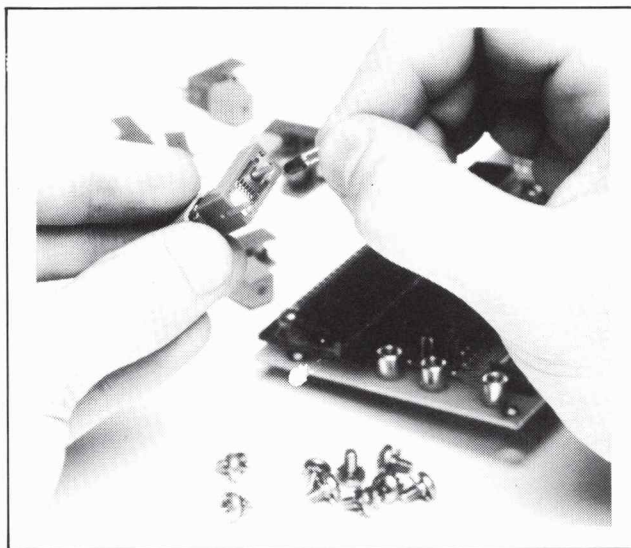

Figure 5-19. LED Insertion Into Switch Plunger.
g. Insert new LED into bottom of switch plunger containing tubing (Figure 5-19).